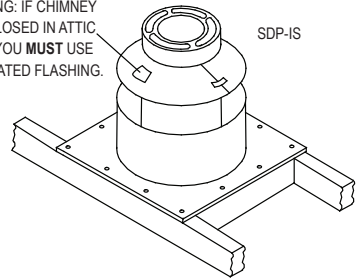

Figure 12
8. Install Attic Insulation Shield: Install the Attic Insulation Shield where the chimney passes into an attic. Its purpose is to prevent debris and insulation from getting too close to the chimney. (Figure 12). An installed Attic Insulation Shield is 14 inches high. In attic areas where this shield won't fit, a Square Support Box, (which is available in heights up to 36 inches), can be used instead of an Attic Insulation Shield, provided it reaches through the roof; refer to the **Roof Supported Installation** section on page 14. If the chimney is fully enclosed through the attic, an Insulation Shield is not required, however, again, Ventilated Flashing must be used.
d. Nail the Insulation Shield to the top of the framed opening with at least two 8-penny nails per side. (**Figure 12**).